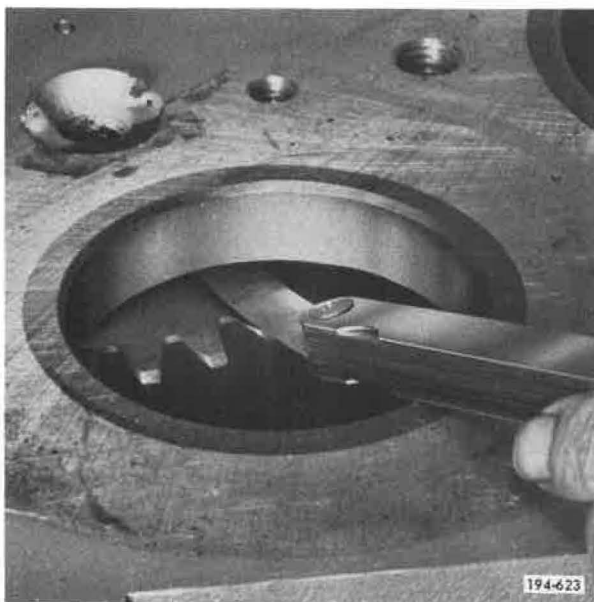

Figure 5-478. Measuring End Play
8. Measure reverse idler gear end play with a feeler gauge. See Figure 5-478. Refer to Torque and Tolerance Table, Item 20. If end play is not within tolerance, replace washers. If still not correct, replace reverse idler gear. If still not within tolerance, case must be replaced.